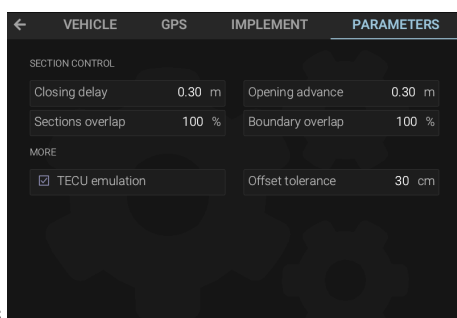

Fig. 65
- Enter the measurements of the implement sections (Fig. 65).